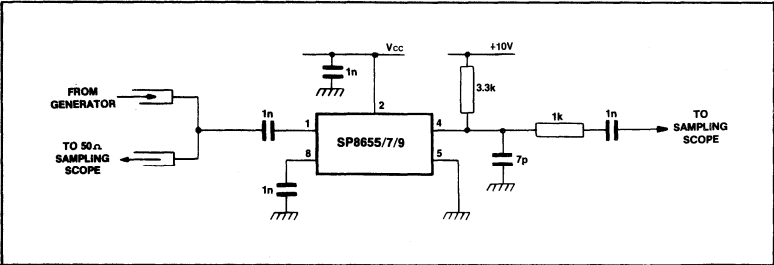

Fig.5 Test circuit
6. The rise time of the open collector output waveform is directly proportional to the load capacitance and load resistor value. Therefore the load capacitance should be minimised and the load resistor kept to a minimum compatible with system power requirements. In the test configuration of Fig. 5, the output rise time is approximately 20ns and fall time is typically 10ns.